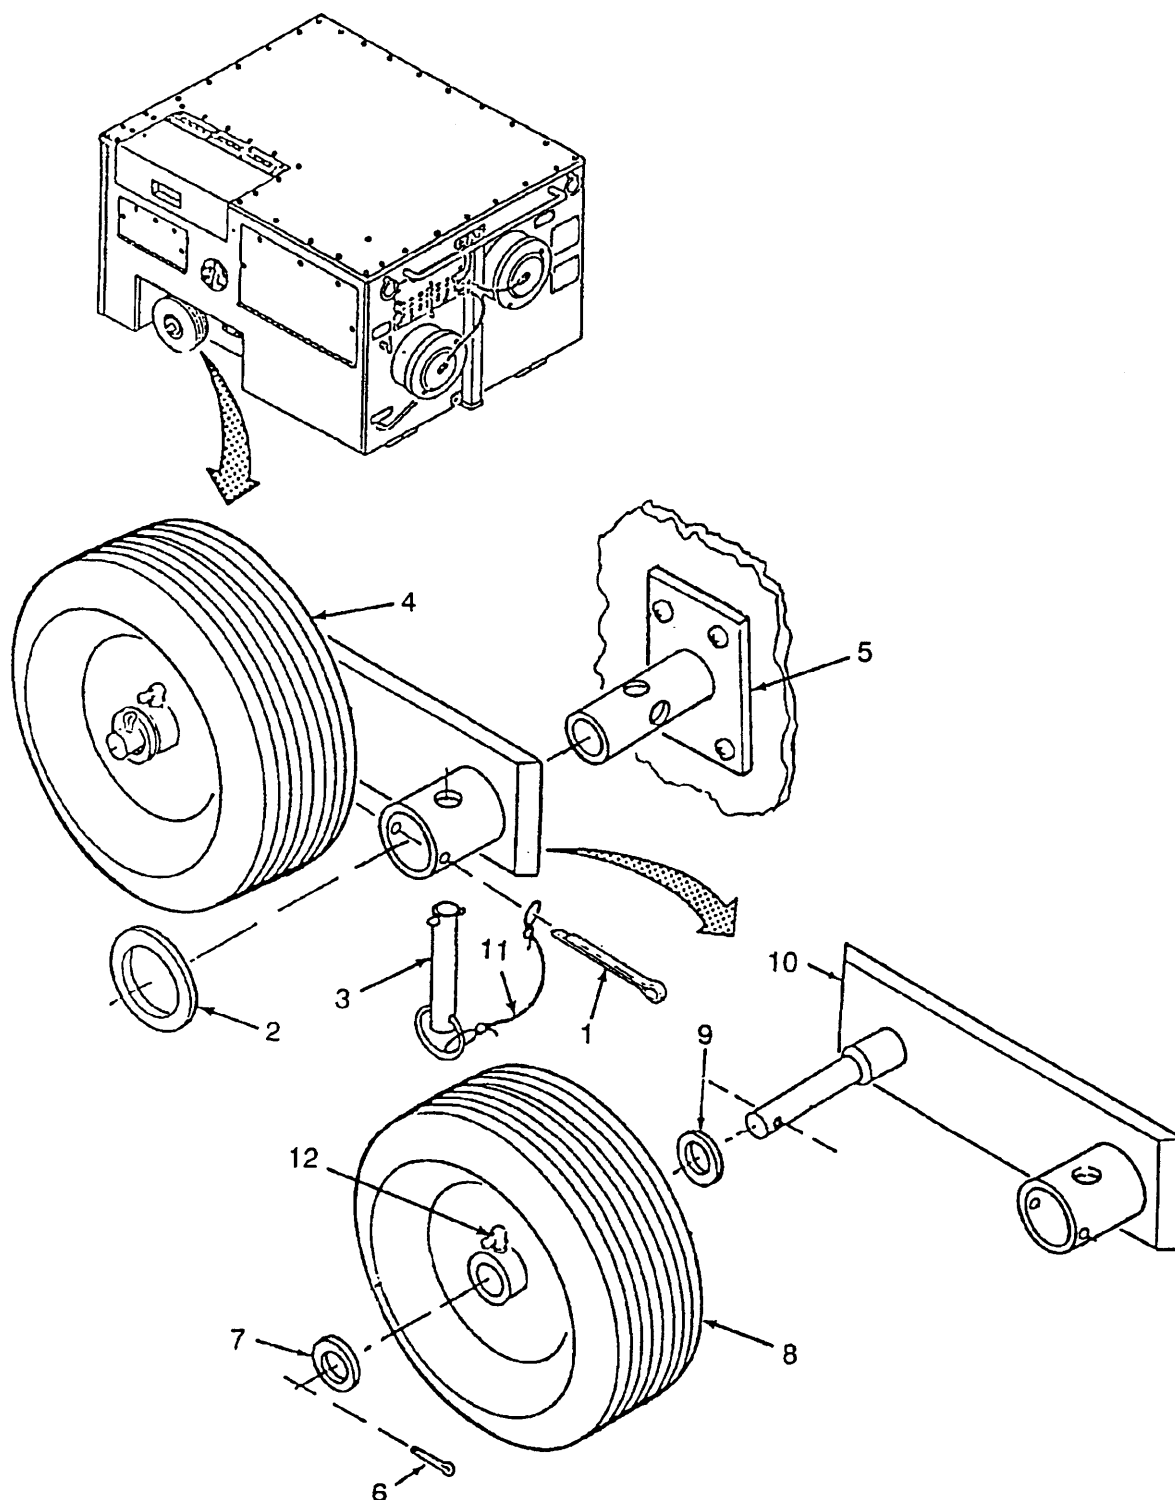

Figure 4-78. Wheel Assembly
- a. Removal (Refer to Figure 4-78)
- (1) Remove cotter pin (1) and flat washer (2). Discard cotter pin.
- (2) Remove pin (3) and wheel assembly (4) from pivot (5).
- (3) Remove cotter pin (6), flat washer (7), wheel (8) and flat washer (9) from arm (10). Discard cotter pin.
- (4) Remove pin (3) from cable (11) only if replacement is necessary.
- c. Installation (Refer to Figure 4-78)
- (1) Install pin (3) and cotter pin (1)(Item 41, App H) on cable (11)(Item 65, App F).
- (2) Install flat washer (9), wheel (8), flat washer (7) and cotter pin (6)(Item 32, App H) on arm (10).
- (3) Install wheel assembly (4) on pivot (5) and install pin (3).
- (4) Install flat washer (2) and cotter pin (1). Service grease fitting (12) with grease (Item 12, App E).
- (5) Check/service tire pressure, (15 psi).